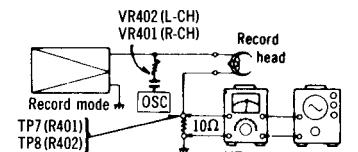

Fig. 16
<p>I Bias current</p> <p>Condition:</p> <ul style="list-style-type: none"> <li>* Record mode</li> <li>* Tape selector           <ul style="list-style-type: none"> <li>... Normal position</li> <li>... Fe-Cr position</li> <li>... CrO2 position</li> <li>... Metal position</li> </ul> </li> </ul> <p>Equipment:</p> <ul style="list-style-type: none"> <li>* VTVM      * Oscilloscope</li> </ul>	<ol style="list-style-type: none"> <li>1. Test equipment connection is shown in fig. 16.</li> <li>2. Place UNIT into record mode, and tape selector to normal position.</li> <li>3. Read voltage on VTVM and calculate bias current by following formula:</li> </ol> $\text{Bias current (A)} = \frac{\text{Value read on VTVM (V)}}{10 (\Omega)}$ <div style="border: 1px solid black; padding: 5px; margin-top: 10px;"> <p>Standard value: <math>0.7 \pm 0.3 \text{ mA}</math> (Normal position)</p> </div> <ol style="list-style-type: none"> <li>4. Adjust VR402 (L-CH) and VR401 (R-CH).</li> <li>5. Set the tape selector to each position.</li> <li>6. Make sure that the measured value is within standard.</li> </ol> <div style="border: 1px solid black; padding: 5px; margin-top: 10px;"> <p>Standard value: <math>0.75 \pm 0.3 \text{ mA}</math> (Fe-Cr position)  <math>1.0 \pm 0.3 \text{ mA}</math> (CrO2 position)  <math>1.6 \pm 0.3 \text{ mA}</math> (Metal position)</p> </div>